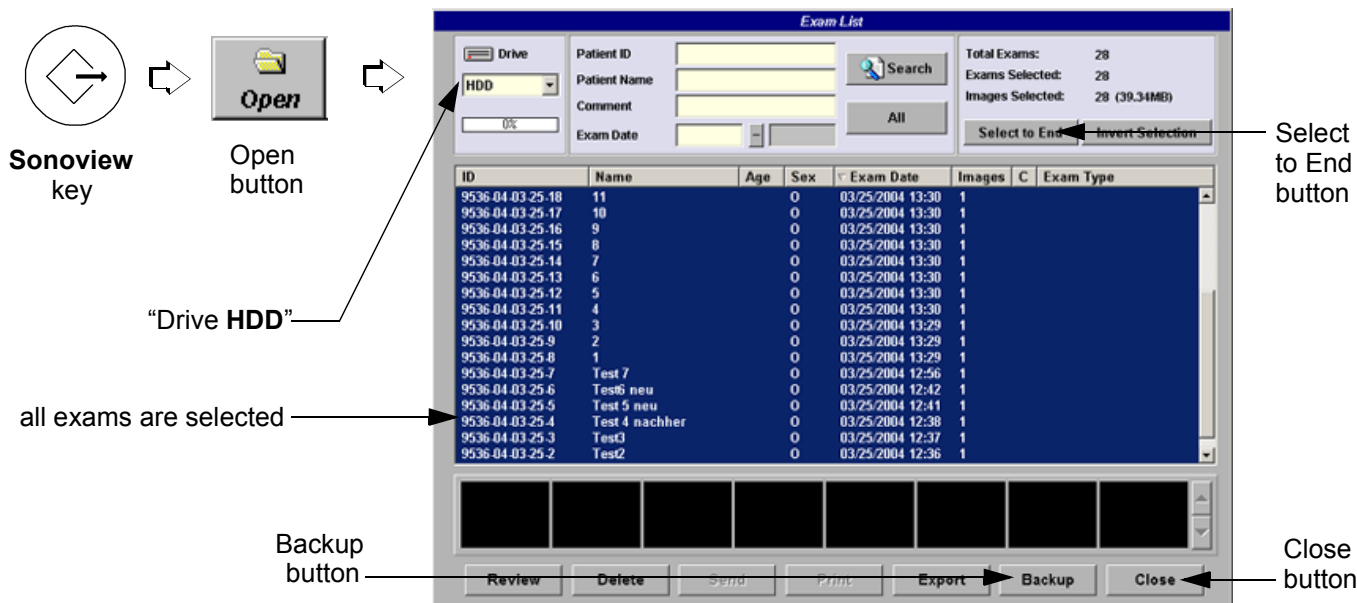
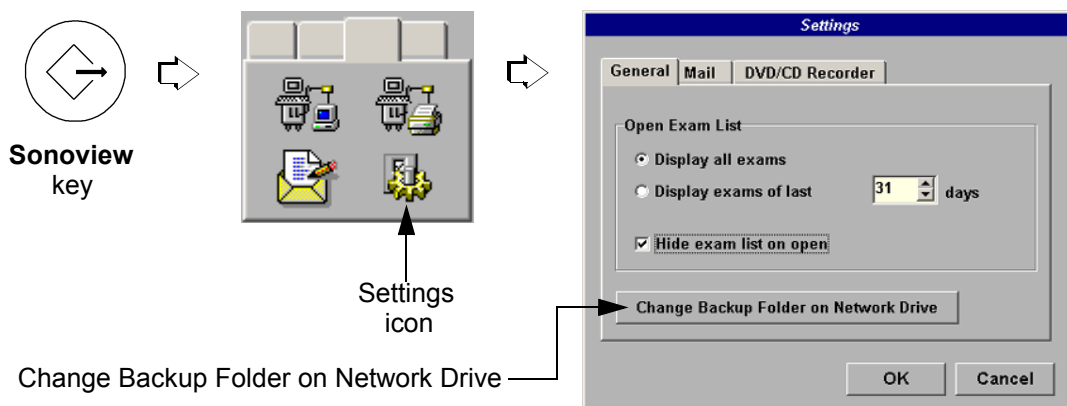

Figure 8-18 Step 1.) to 5.)
Figure 8-20 Step 1.) to 3.)
- 7.) Click the CLOSE button (see: Figure 8-18) and then select the SETTINGS icon (see: Figure 8-20) on the left side of the screen.